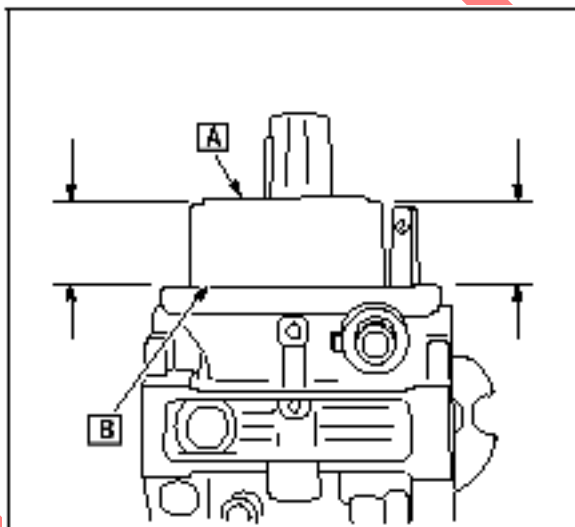

Fig. 91
Turn the carburetor body upside down. The float (A) should be parallel to the float bowl mounting surface (B) Fig. 91).